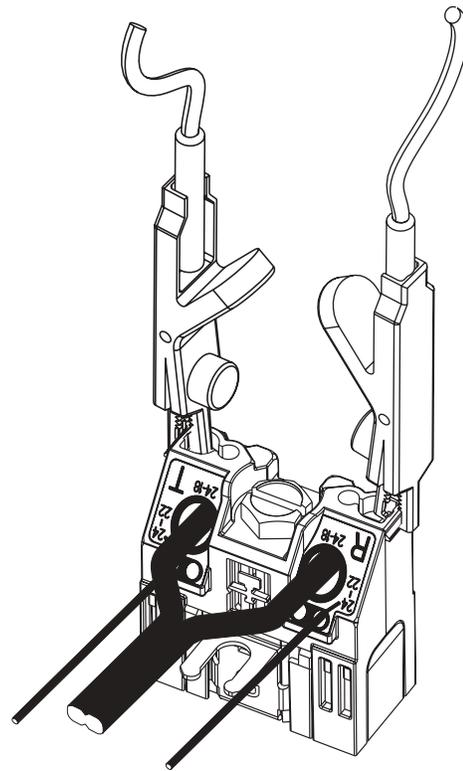

Figure 4 — Test Complete Circuit
- Step 1** The complete circuit can be tested with the cap in place. Simply connect standard test clips to the test points while cap is screwed down. (Figure 4).